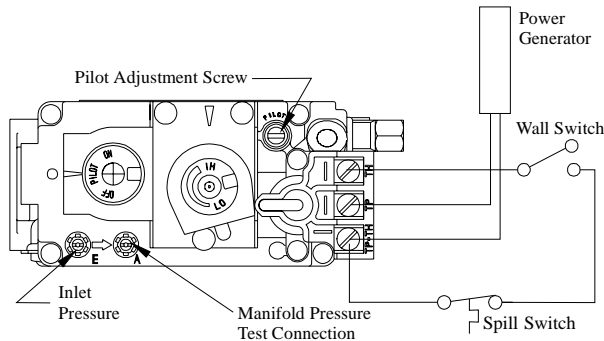

Figure 12. Sit Nova 820 gas valve.
- Have the fireplace installation inspected yearly, including a visual check of the vent system, the burner and the pilot flame. For your convenience a 1/8" manifold pressure tap is supplied on the gas valve for a test gauge connection. See Figure 12.
1. Locate Pilot Adjustment Screw. (See figure 12.)
Pilot won't ignite	Disconnect remote wires and try to light pilot. If pilot now works, remote connections are faulty. Check wiring diagram figure 12.
Main burner will not light	1. Check wiring (see figure 12). 2. Check wall switch for proper connection.